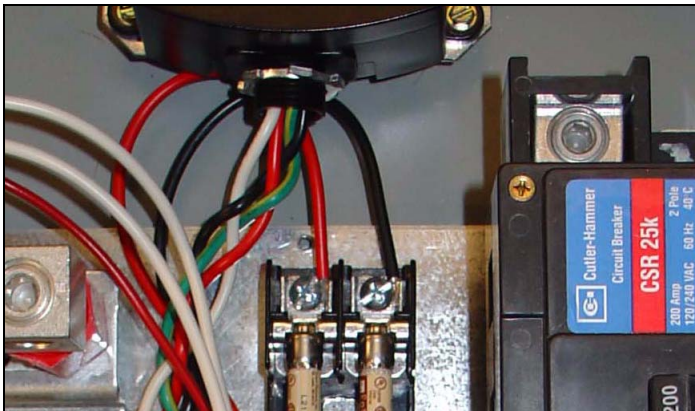

Figure 65. TVSS Fuse Block Mounted in a SE ATSS.
Step 5: Install the supplied fuses in the TVSS fuse block (see Figure 65).